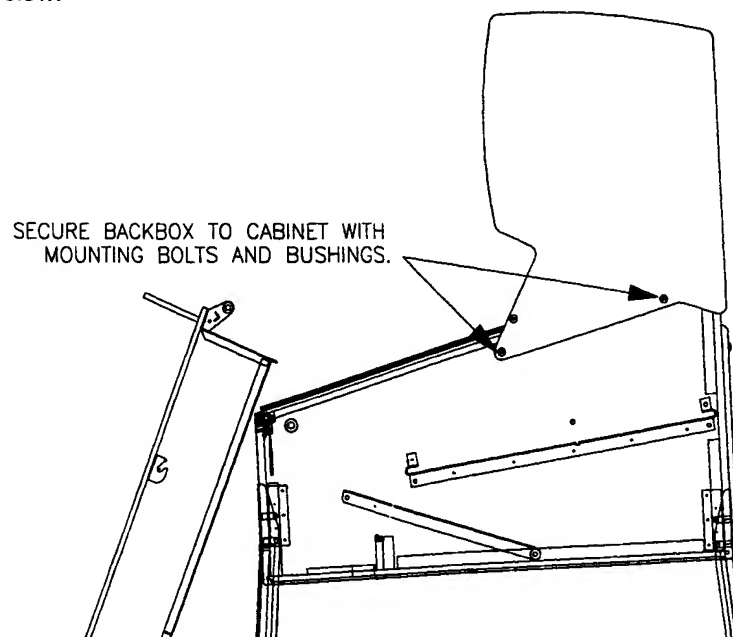

Figure 8
10. Line up the four mounting holes in the cabinet with the mounting holes in the backbox. Place a bushing in each of the mounting holes in the cabinet. Fasten the two assemblies together by inserting a bolt through the backbox and into the cabinet in each of the four mounting holes. See Figure 8 below.
12. Next, connect the cables. *Do not force cables onto connectors. Cables should plug in easily.* The three cables coming from the backbox and going to the cabinet are the 9-pin serial cable, the 25-pin parallel cable and the power/speaker cable. There is one cable from the cabinet that goes to the backbox, it is the ground strap. See Figure 8, on the previous page.